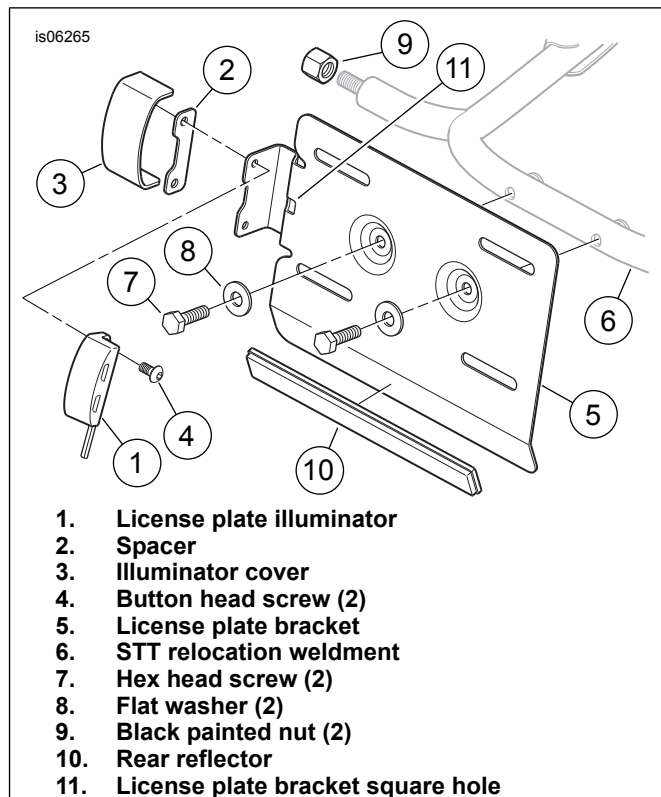

Figure 2. License Plate Illuminator Installation
2. See Figure 2. Assemble the illuminator (1), spacer (2) and cover (3) to the license plate bracket (5) in the sequence shown, and tighten the screws (4) securely.
3. Get the STT relocation weldment (6), two screws (7) and two flat washers (8) from the kit.
7. See Figure 2. Insert the license plate illuminator (1) wires and conduit into the square hole (11) in the license plate bracket (5). See Figure 7. Guide the wires and conduit into the hole (C) in the STT relocation weldment tube, and push the wires past the Y-joint (D) on the left side of the tube until the insulated wire ends are exposed at the forward opening.